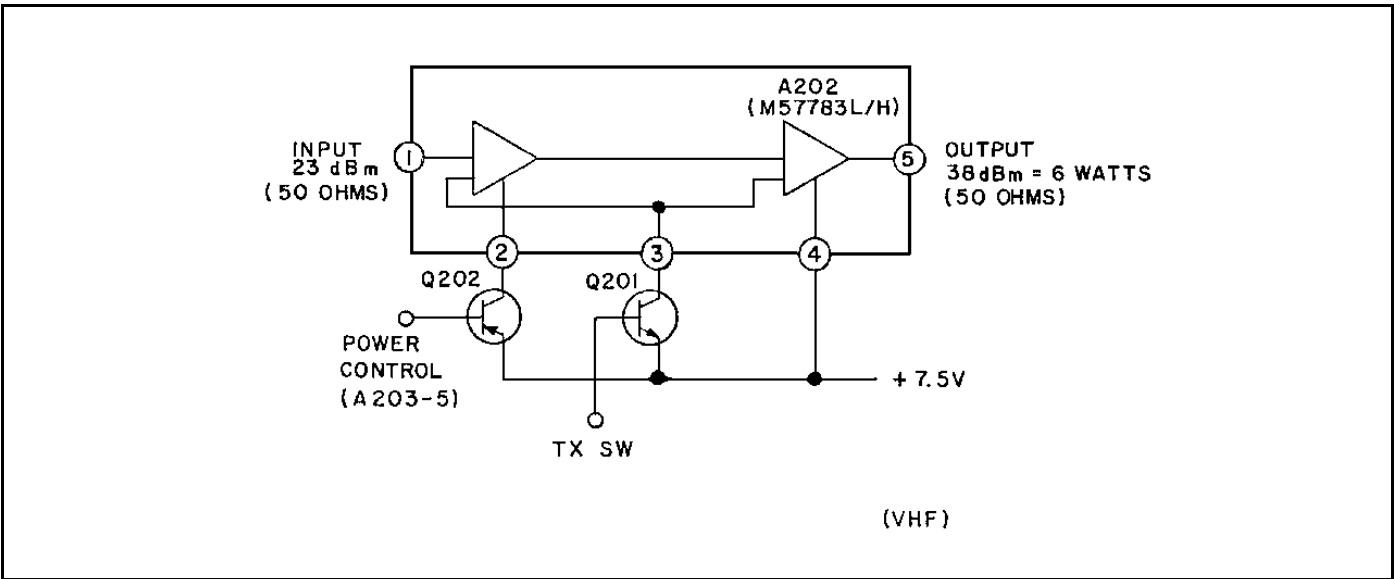

Figure 4 - Power Amplifier
Power Amplifier (PA) A202 is a three stage, wide band amplifier module with an input and an output impedance of 50 ohms (refer to Figure 4). The first stage of the PA module has the DC power supplied by power control transistor